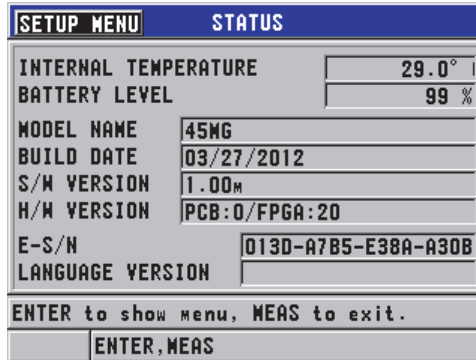

Figure 12-5 Example of the STATUS screen
- In the **SP MENU** (see Figure 4-2 on page 55), select **STATUS** (see Figure 12-5 on page 213).